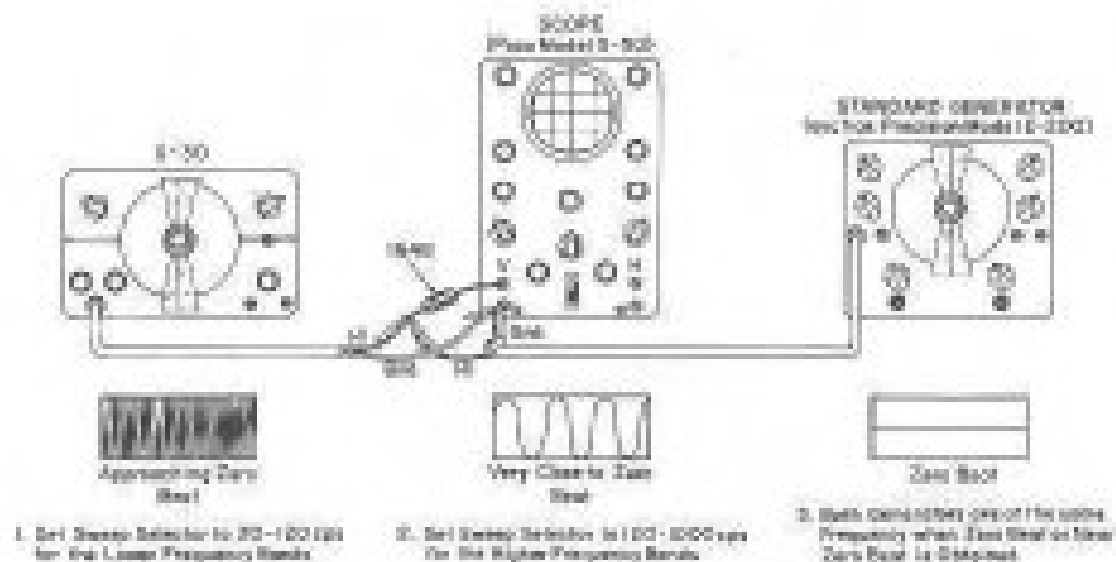

FIGURE 21
(A) A signal generator of known accuracy in conjunction with either a radio receiver covering the desired frequency ranges or an oscilloscope and a crystal diode, such as a 1N48, for observing zero beat. See Figure 21.